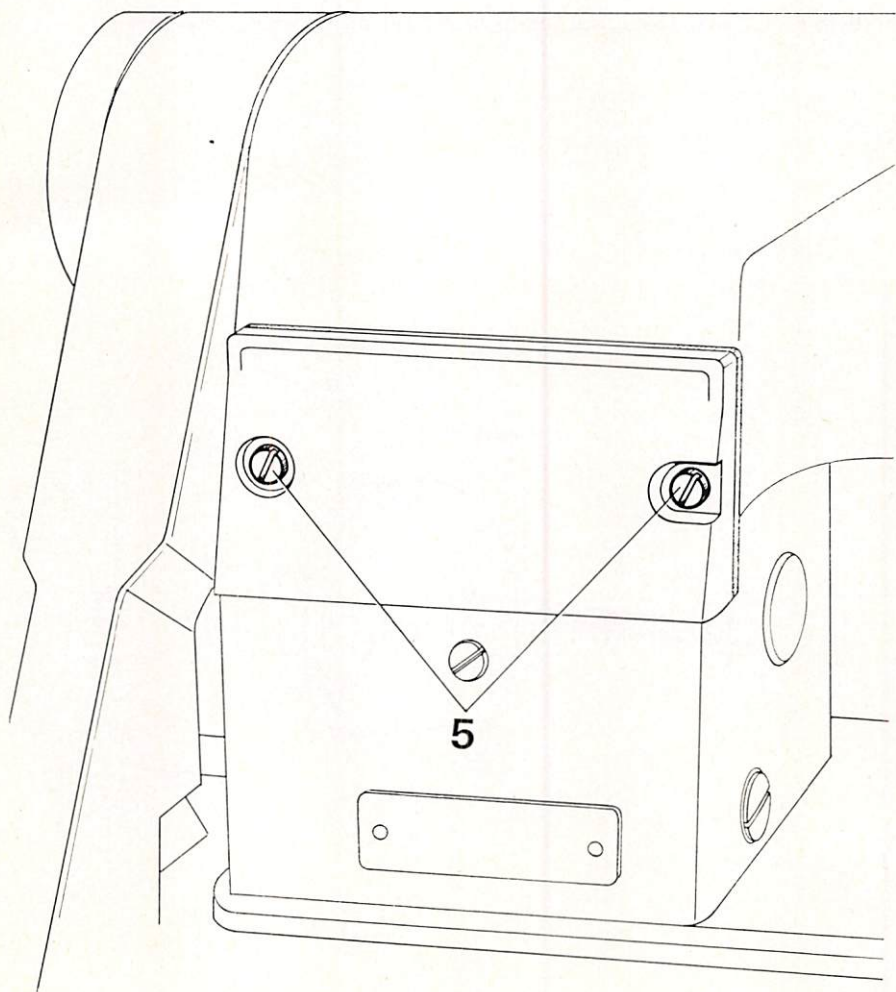

Fig. 2
1.2 Removing the Cast-Iron Cover (Fig. 2)